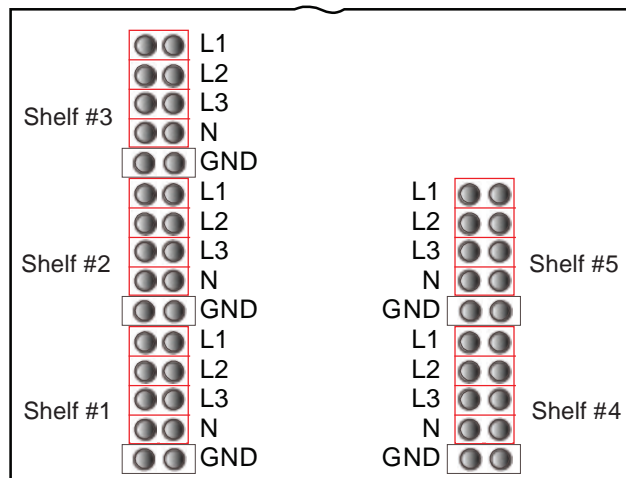

Figure 13 — Terminal blocks for 5-feed, 3-wire 208Vac input
2. Connect to the terminal blocks as shown in Figure 13. (Also clearly labeled on the panel.)